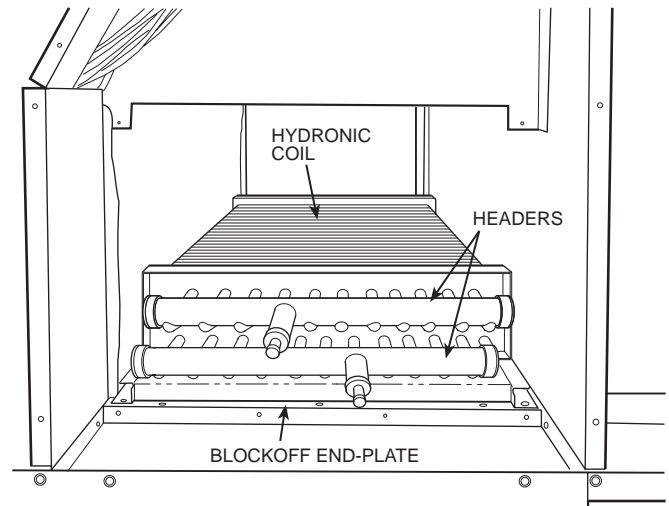
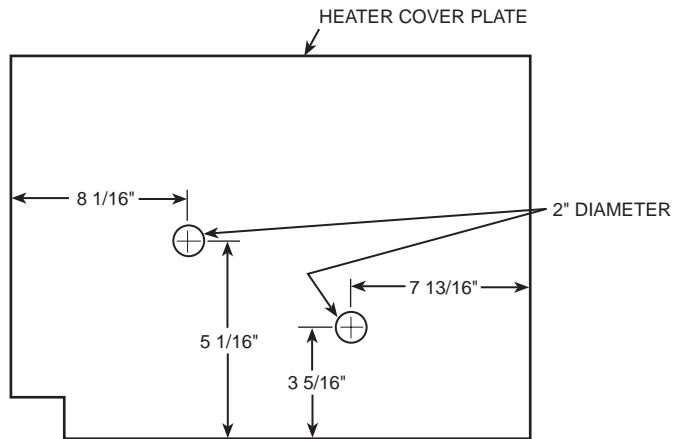

Fig. 7 — Hydronic Coil Installed in Unit
Fig. 8 — Electric Heater Cover Plate, Water Supply Access Details
6. Secure hydronic coil to base of unit with self-drilling screws provided (Fig. 7).
7. Referring to dimensions shown in Fig. 8 cut in heater cover plate (control box side). Replace both cover plates and make necessary connections to water supply. Supply can be brought in through base rails of unit or through heater access panel. Bottom header is for water inlet (Fig. 7).